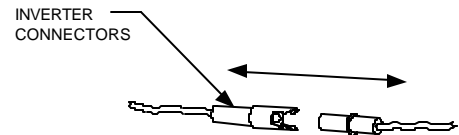

FIG. 1
2. Disconnect the battery pack INVERTER CONNECTORS (Fig. 1), located inside the SWITCH BOX (see page 3) to prevent electrical shock from the battery pack.